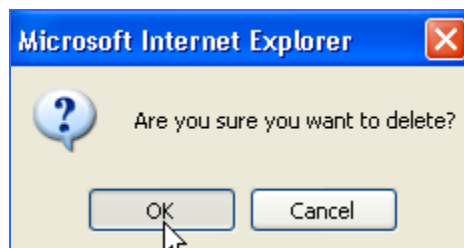

Figure 28 – Click on “OK” to Delete Screen
2. A message “Are you sure you want to delete?” will appear. Click on “OK” (Figure 28).